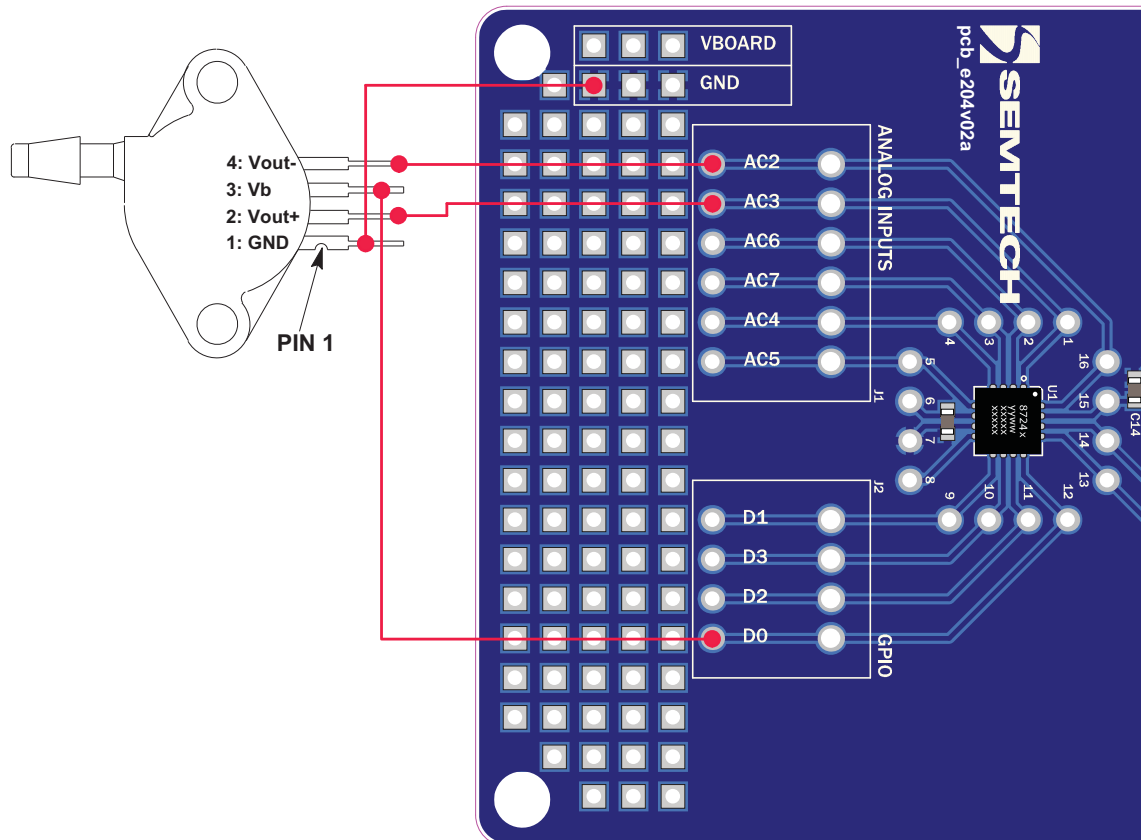

Figure 33. Connection on the SX8724CEVK Evaluation board
1. Connect the sensor to the board as described in **Figure 33 on page 39**.